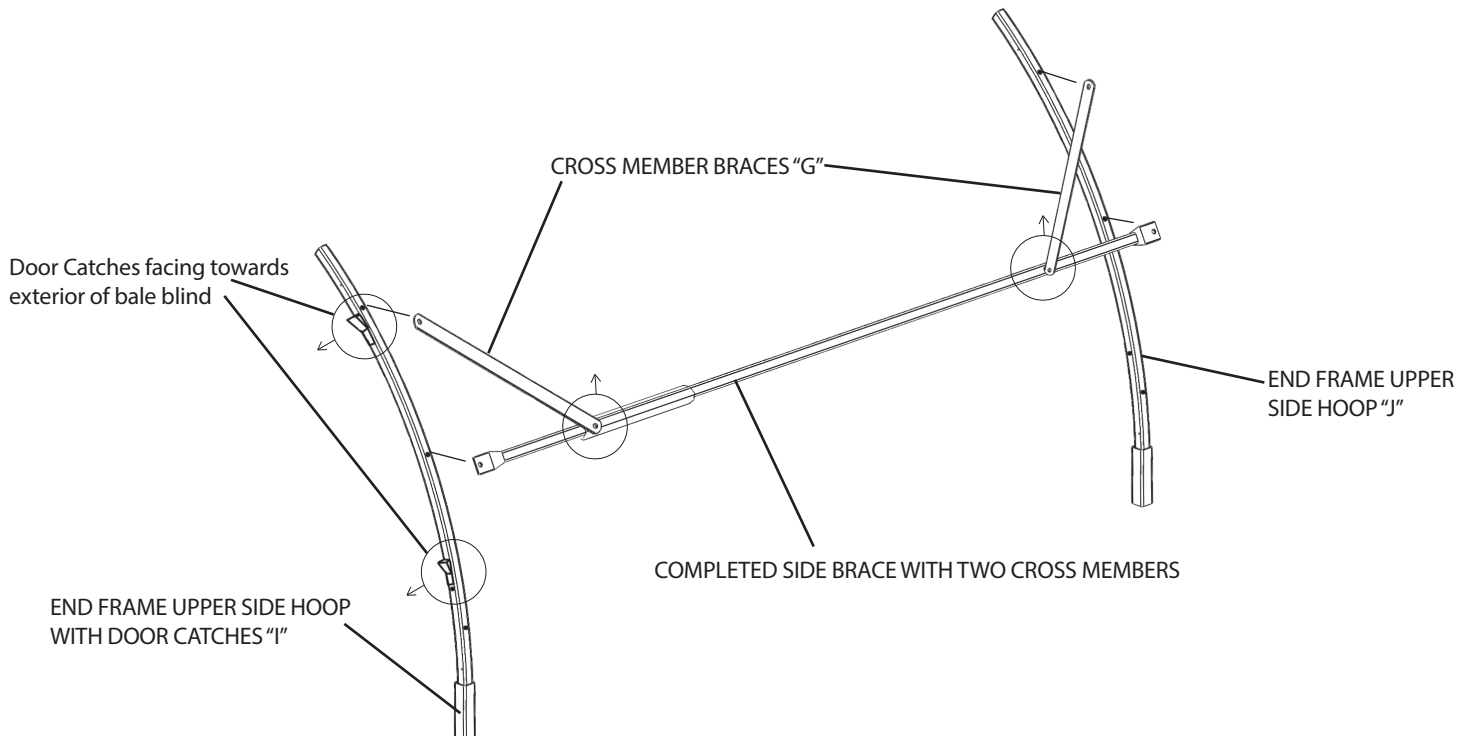

Figure 17.1
STEP 9: Locate the (3) parts that will be assembled to create the second section of the bale blind frame. These parts are (1) COMPLETED SIDE BRACE WITH TWO CROSS MEMBERS, (1) END FRAME UPPER SIDE HOOP WITH DOOR CATCHES "I" and (1) END FRAME UPPER SIDE HOOP "J". Using the hardware connection in (2) places, align and fasten the hole ends in the COMPLETED SIDE BRACE WITH TWO CROSS MEMBERS with the middle hole in the END FRAME UPPER SIDE HOOP WITH MAGNET "I" and the middle hole in the END FRAME UPPER SIDE HOOP "J", fastening with (2) Bolts and (2) Nuts. Next align the hole ends of the (2) CROSS MEMBER BRACES "G" with the upper most holes in the END FRAME UPPER SIDE HOOP WITH DOOR CATCHES "I" and the END FRAME UPPER SIDE HOOP "J", and fastening with (2) Bolts and (2) Nuts, as illustrated in Figure 17.1.
NOTE: On the END FRAME UPPER SIDE HOOP WITH DOOR CATCHES "I", make sure the door catches are facing towards what would be the exterior of the bale blind, as illustrated in Figure 17.1. On the COMPLETED SIDE BRACE WITH TWO CROSS MEMBERS, make sure the (2) Set Screws already installed are facing upwards, as illustrated in Figure 17.1.